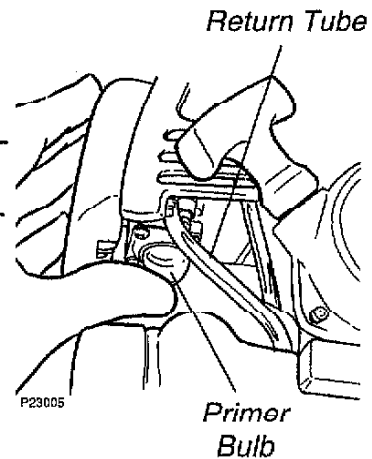

Figure 22
3. Prime the engine by depressing the carburetor primer bulb four or five times. See Figure 22. You should be able to see fuel inside the bulb.